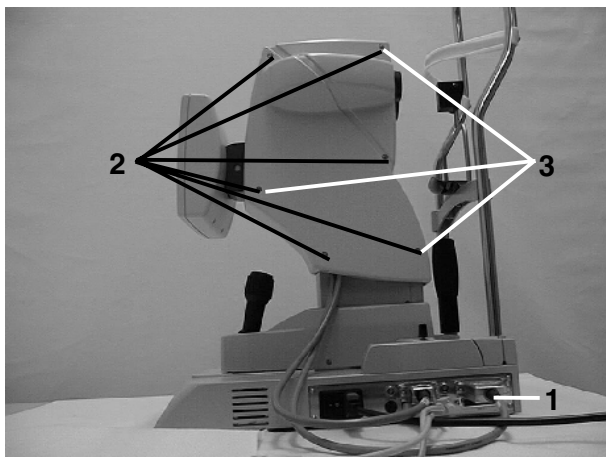

Fig. 6a
- Unplug connector ((1) Fig. 6a).
- Remove six screws ((2) Fig. 6a) from one side and remove the cover.
- Remove three screws ((3) Fig. 6a) from the other side and remove the cover.
- Remove the housing from connector ((1) Fig. 6a).
- Fasten the display cable with a cable tie and the cable clamp to the basic body (remove connector housing ((1) Fig. 6a) and re-attach it after feeding the cable through the unit).